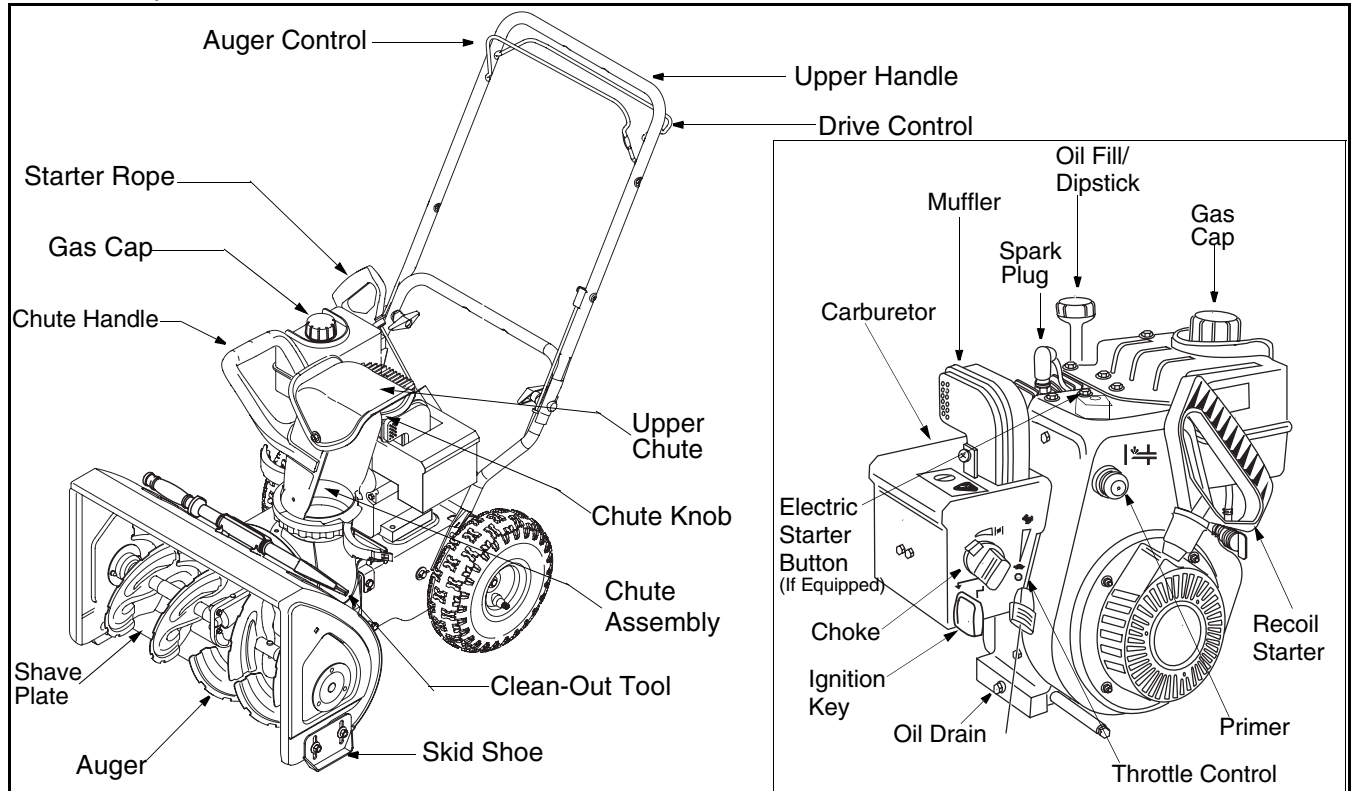

Figure 6
The space between the shave plate and the ground can be adjusted. Refer to Figure 6 for location of shave plate and skid shoes.
- Compare Figure 6 with your equipment and follow description of controls, given below, to get familiar with their operation.
For location of all the engine controls referred to in this section, see Figure 6.